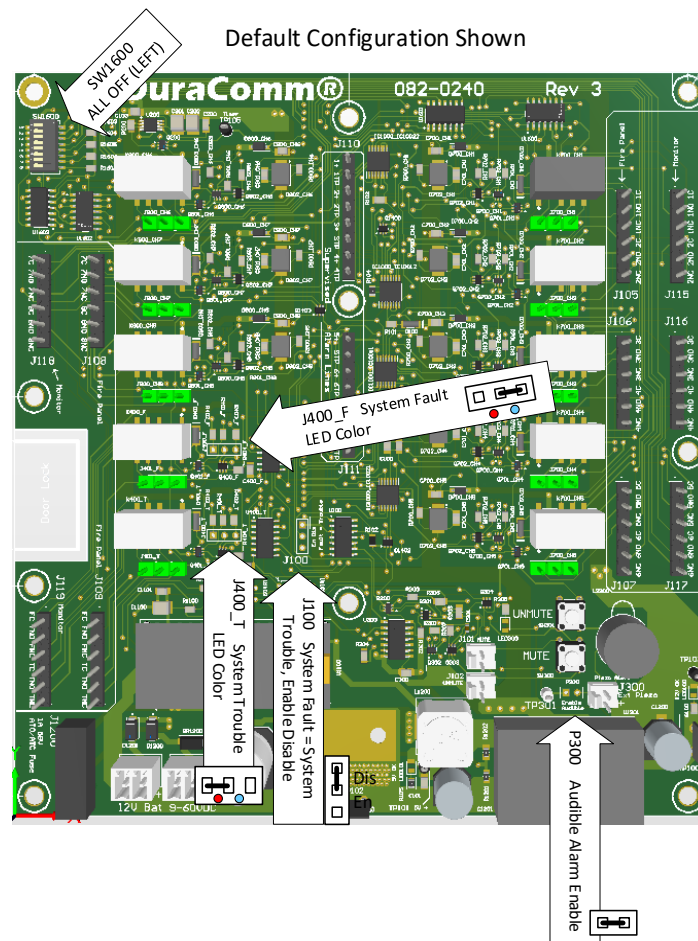

Figure 2: Factory Hardware Configuration
2. Verify Standard Configuration of annunciator for fire alarms. See Figure 2
- b. NOTE: If a Jumper is placed on J100 to enable FAULT=TROUBLE (pins 2 & 3), ANY BLUE LED WILL ALSO CAUSE A RED SYSTEM TROUBLE LED. See Figure 2.
Alarm-On-Open capability is typically used for burglar alarm circuits to detect when a circuit is broken. SW1600 in the upper left corner of the annunciator board (see Figure 2) can be used to configure each channel independently to operate with that capability. The factory setting for all channels is OFF or OPEN (switch towards the outside of the board). When a switch is set to ON (towards the inside of the board) the channel is set to alarm-on-open. Alarms will then operate with the faults and alarms configured for this logic.